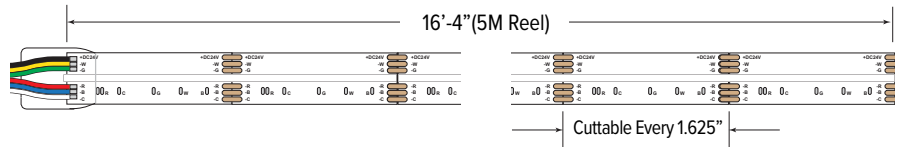

FIG. 2
3. Make final adjustments to your layout to fit the cut increments of the tape. (Fig. 1). Repeat this step for other LED linear sections between corners (Fig. 2 and 3 - Section D, B and E) (other shapes include rectangles, squares or zig-zag patterns with square corners).